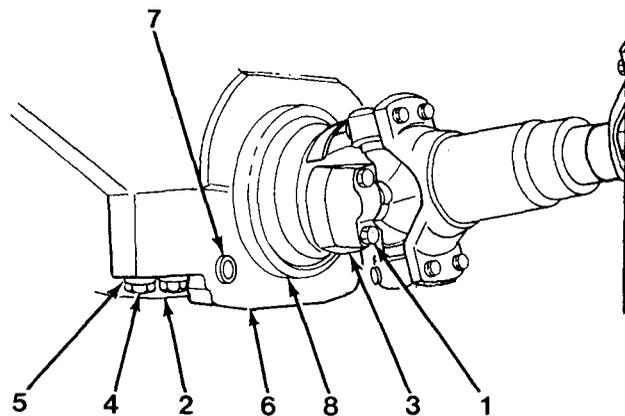

Figure 12-1
- Remove four capscrews (1) to disconnect rear axle (2) from rear drive shaft spider bearing assembly (3, Figure 12-1).
- Using hydraulic floor jacks, support rear axle (2).
- Matchmark two caps (6) and bushings (8).
- Remove eight capscrews (4), washers (5) two caps (6) and grease zerks (7).